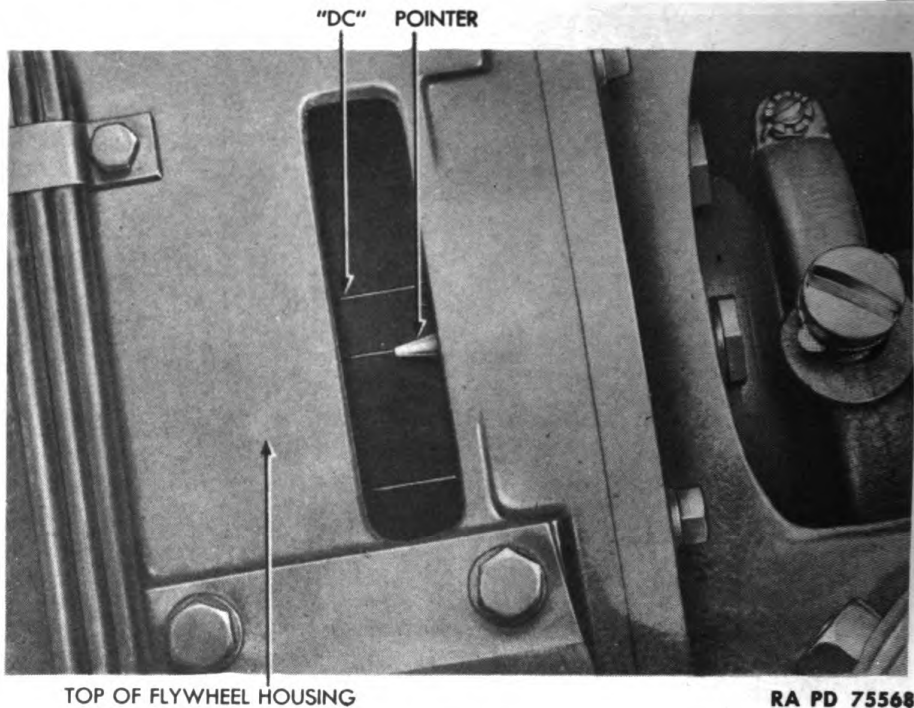

Figure 37 — Compressor Unit Engine Flywheel Timing Marks
1. Turn engine with hand crank until piston of number 1 cylinder moves to firing position in compression stroke. Flywheel marking, "D C," must be right under pointer (fig. 37).